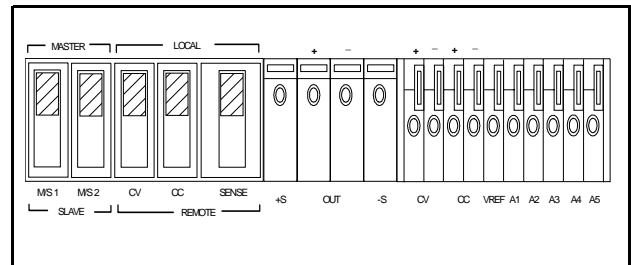

Figure 4. Switch Settings of Rear-Panel Control for Turn-On Checkout
- b. Check that the rear-panel switch settings are as shown in Figure 4.
The power supply is shipped from the factory configured in the local operating mode. Local operating mode requires the switch settings of the rear panel, as shown in Figure 4. The power supply provides constant voltage(CV) or constant current(CC) output.